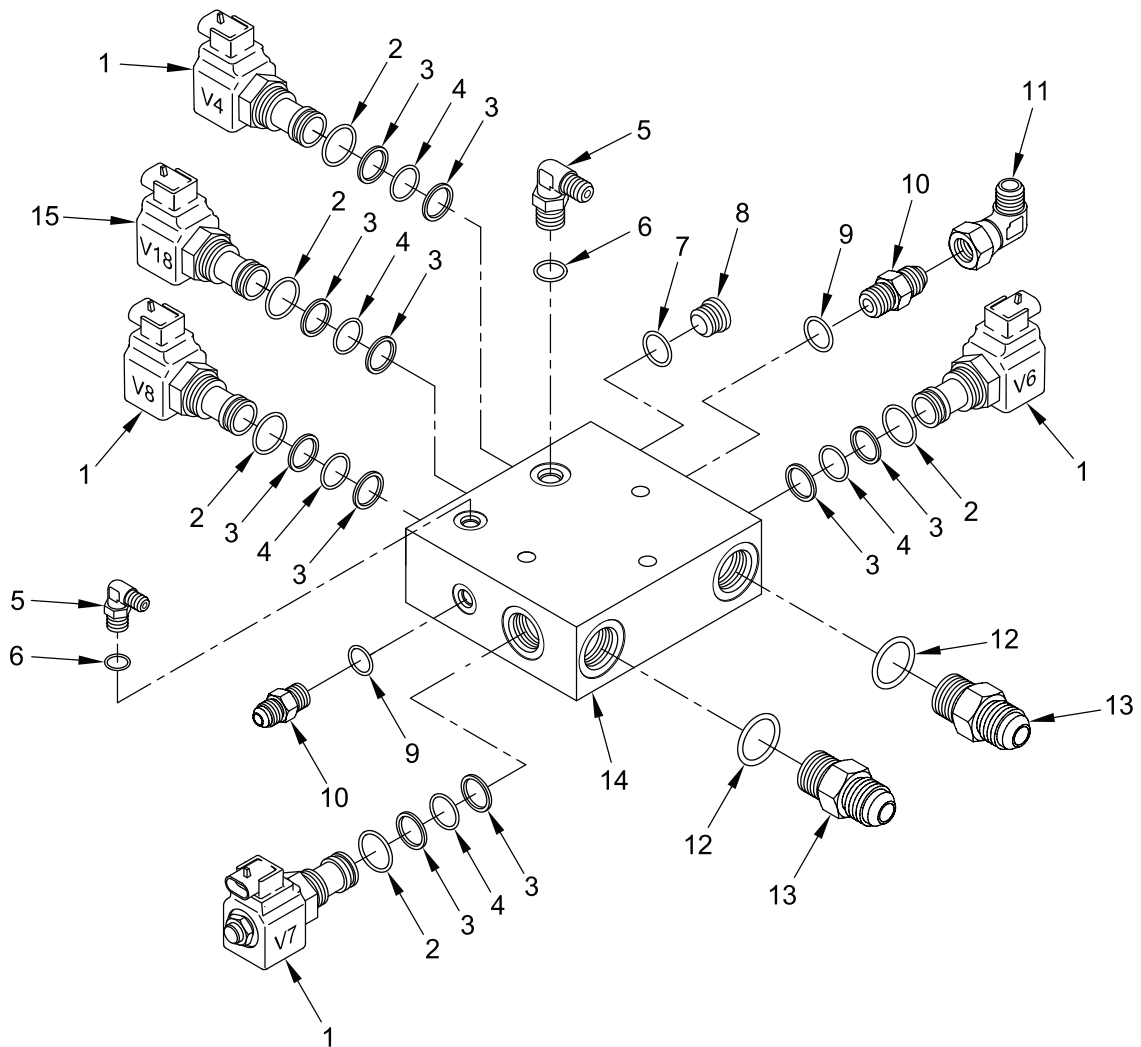

Figure 2. Disassembly of HDC Manifold Assembly
1. Remove adapter (Figure 2, item 11), two adapters (Figure 2, item 10), two o-rings (Figure 2, item 9), two adapters (Figure 2, item 13), two o-rings (Figure 2, item 12), plug (Figure 2, item 8), o-ring (Figure 2, item 7), two adapters (Figure 2, item 5), and two o-rings (Figure 2, item 6) from aft manifold (Figure 2, item 14). Discard o-rings.
2. Remove four two-way (NO) valves V4, V6, V7, and V8 (Figure 2, item 1), one two-way (NC) valve, (Figure 2, item 15), five teflon backups (Figure 2, item 3), five o-rings (Figure 2, item 4), five teflon backups (Figure 2, item 3), and five o-rings (Figure 2, item 2) from aft manifold (Figure 2, item 14). Discard o-rings and teflon backups.